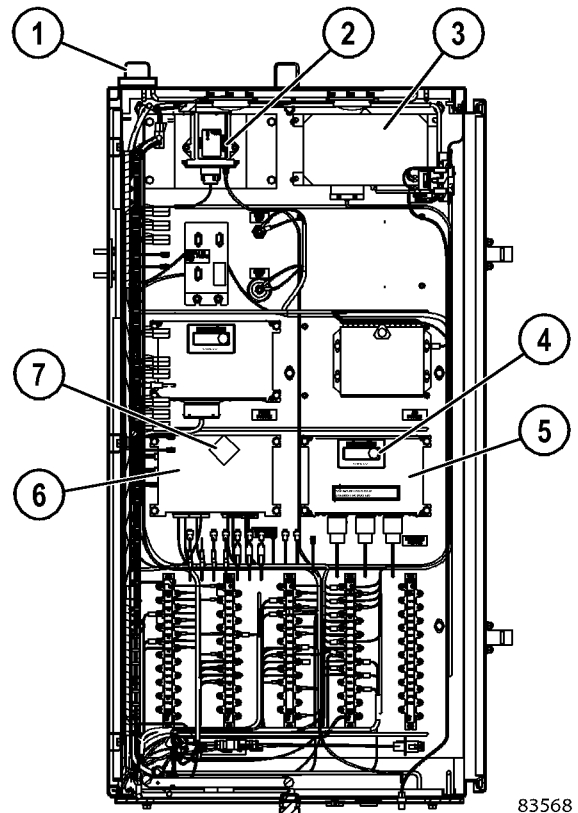
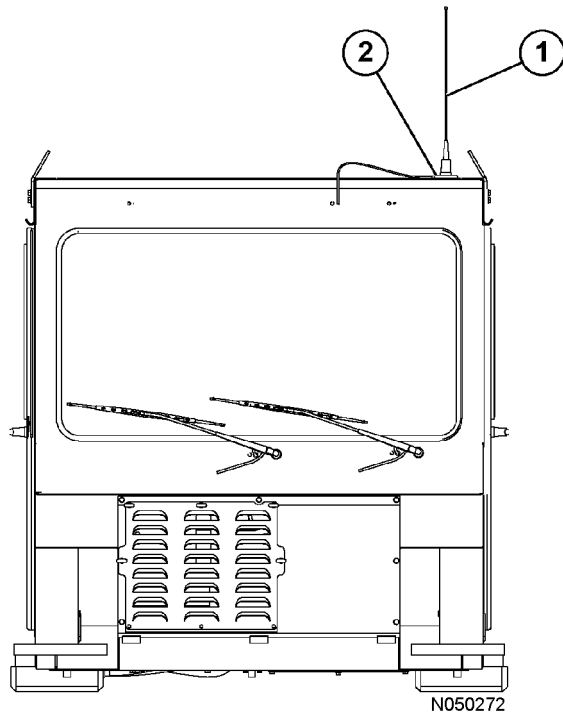

FIGURE 5-13. KOMTRAX PLUS COMPONENTS
FIGURE 5-14. ORBCOMM ANTENNA
This system uses KOMTRAX Plus controller (formerly known as VHMS) (6, Figure 5-13) to gather data about the operation of the truck from sensors and other controllers installed on the truck. The data stored in KOMTRAX Plus is collected by a laptop personal computer (PC) or transmitted directly by communications satellite (utilizing the Orbcomm controller). This data is then compiled at the Komatsu computer server. Based on this information, the servicing Komatsu distributor will suggest improvements and provide information aimed at reducing machine repair costs and downtime.
The KOMTRAX Plus system is turned on by the truck key switch. Immediately after receiving 24V power from the key switch, the KOMTRAX Plus controller begins the power-up initialization sequence. This sequence takes about three seconds, during which time red LED digits (7, Figure 5-13) display a circular sequence of flashing LED segments.
Orbcomm controller (3, Figure 5-13) transmits data through antenna (1, Figure 5-14) mounted on top of the cab. The antenna coaxial cable is routed through the inside of the cab to protect it from damage. If the antenna or coaxial cable is damaged, replace the parts.
Interface module (3, Figure 5-13) receives data from the sensors installed on the truck and sends this information to the KOMTRAX Plus controller. There is a small green LED light on the face of the controller. With the key switch ON, the light must be blinking. If the light is continuously illuminated, there is a problem in the controller.
The Komatsu wireless bridge (2, Figure 5-13) allows for the transfer of information from the KOMTRAX Plus controller to a laptop computer with wireless network capabilities. The information that is downloaded through the KWB (Komatsu wireless bridge) is the same information that is gathered during a manual download from the KOMTRAX Plus system. Downloads can be performed with the laptop computer located on or near a stationary truck, or the computer can be located close to a path of moving trucks. Total download time is approximately 10 seconds. If only a portion of the data is downloaded while the truck is passing by a laptop computer, the remaining information will be downloaded the next time a data download occurs.